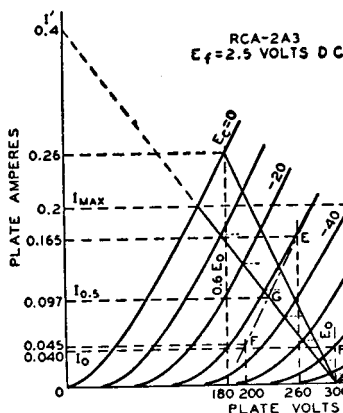
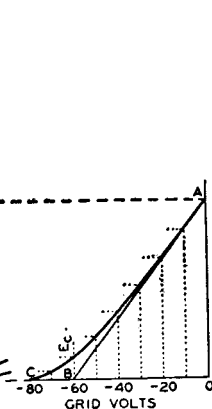

Fig. 24—Graphic calculations for class  $AB_1$  amplifier using the 2A3 power triode.
Fig. 25—Instantaneous curve for class  $AB_1$  amplifier.
point D in Fig. 24. Its position is not affected by the operating grid bias provided the plate-to-plate load resistance remains constant.
In general, for any load line through point D, Fig. 24, the plate-to-plate load resistance in ohms of a push-pull amplifier is  $R_{pp} = 4E_o/I'$ , where  $I'$  is the plate-current value in amperes at which the load line as projected intersects the plate-current axis, and  $E_o$  is in volts. This formula is another form of the one given under push-pull class A amplifiers,  $R_{pp} = 4(E_o - 0.6E_o)/I_{max}$ , but is more general. Power output  $= (I_{max}/\sqrt{2})^2 \times R_{pp}/4$ , where  $I_{max}$  is the peak plate current at zero grid volts for the load chosen. This formula simplified is  $(I_{max})^2 \times R_{pp}/8$ . The maximum-signal average plate current is  $2I_{max}/\pi$  or  $0.636 I_{max}$ ; the maximum-signal average power input is  $0.636 I_{max} \times E_o$ .
**Example:** Fig. 24 illustrates the application of this method to a pair of 2A3's operated at  $E_o = 300$  volts. Each tube has a plate-dissipation rating of 15 watts. The method is to erect a vertical line at 0.6 $E_o$ , or at 180 volts, which intersects the  $E_c = 0$  curve at the point  $I_{max} = 0.26$  ampere. Using the simplified formulas, the following values are obtained:
The operating bias and the zero-signal plate current may then be found by use of a curve which is derived from the plate family and the load line. Fig. 25 is a curve of instantaneous values of plate current and dc grid-bias voltages taken from Fig. 24. Values of grid bias are read from each of the grid-bias curves of Fig. 24 along the load line and are transferred to Fig. 25 to produce the curved line from A to C. A tangent to this curve, starting at A, is drawn to intersect the grid-voltage abscissa. The point of intersection, B, is the operating grid bias for fixed-bias operation. In the example, the bias is —60 volts. Refer back to the plate family at the operating conditions of plate volts = 300 and grid bias = —60 volts; the zero-signal plate current per tube is seen to be 0.04 ampere.
tortion in a class  $AB_1$  amplifier using triodes is very small and is largely canceled by virtue of the push-pull connection. Third-harmonic distortion, however, which may be larger than permissible, can be found by means of composite characteristic curves. A complete family of curves can be plotted, but for the present purpose only the one corresponding to a grid bias of one-half the peak grid-voltage swing is needed. In the example, the peak grid voltage per tube is 60 volts, and the half value is 30 volts. The composite curve, since it is nearly a straight line, can be constructed with only two points (see Fig. 24). These two points are obtained from deviations above and below the operating grid and plate voltages.
These steps provide points at 260 volts and 0.165 ampere (E), and at 200 volts and 0.045 ampere (F). A straight line through these points is the composite curve for a bias of  $-30$  volts, shown as a long-short dash line in Fig. 24. At the intersection of the composite curve and the load line, G, the instantaneous composite plate current at the point of one-half the peak signal swing is determined. This current value, designated  $I_{0.5}$  and the peak plate current,  $I_{max}$ , are used in the following formula